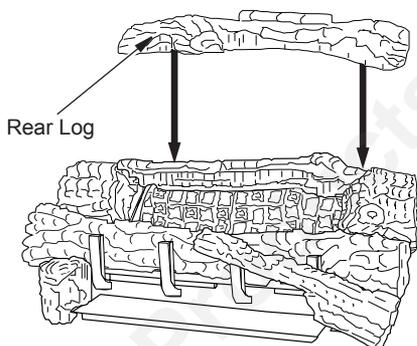

Figure 31 - Installing Rear Log
- Rest rear log in back corner sections of chassis assembly as shown in Figure 31.